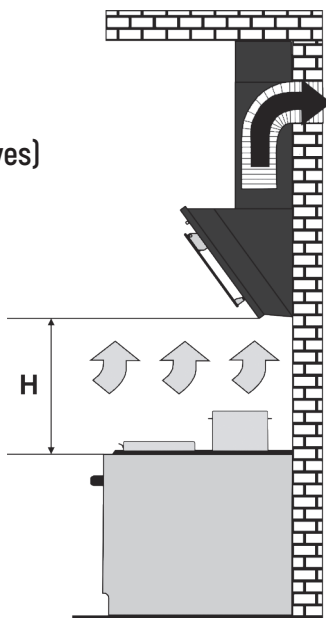

Fig. 1
☒ **air exhaust** with corrugated aluminium/plastic air ducts (Ø 150 mm or 120 mm) into a stationary kitchen air shaft (chimney) (Fig. 1);
1.11 Caution! Install the hood on a wall at 650-750 mm above an electric stove. As for a gas stove, install the appliance at 750-850 mm above a cooktop (Fig. 1).
4.5 When the cooker hood is installed above a stove at appropriate **installation height H (Fig. 1)** use an air **duct $\varnothing 150 / \varnothing 120 \text{ mm}$** to exhaust air into a chimney. Lesser diameter will cause an additional resistance to air leading to increased noise, vibration and motor overheating.
- ☒ air exhaust into a kitchen chimney (Fig. 1);